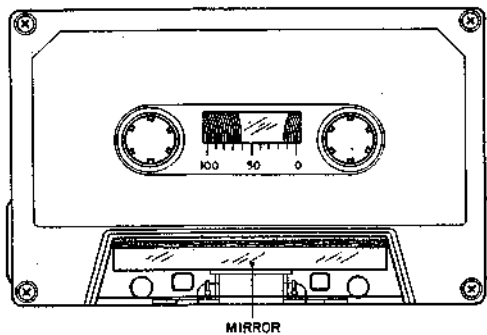

Fig. 23. Mirror Cassette
- 1) When using an ordinary cassette, the tape guides and heads, etc. are not visible. As shown in Fig. 23 use a cassette tape from which part of the cassette case has been cut out and a mirror installed for easy visibility of the head area when making tape guide height adjustment.